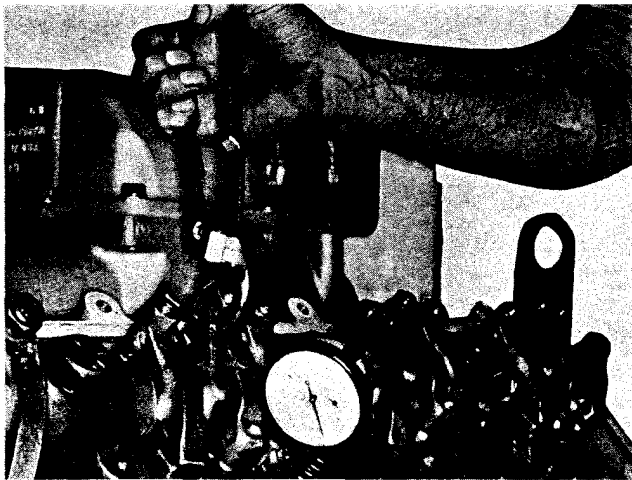

Fig. 2-35, (V514105). Bottoming injector plunger in cup
3. Using ST-1147 Pliers, Fig. 2-35, bar the lever forward until injector plunger is bottomed in cup to squeeze oil film from between plunger and cup.